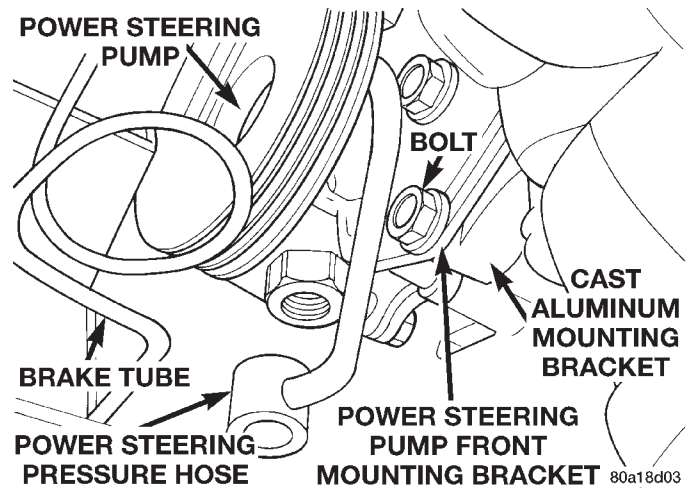

Fig. 27 Power Steering Pump Front Bracket Attachment
(8) Remove bolt at adjustment slot, (Fig. 27) attaching front power steering pump mounting bracket to cast aluminum accessory drive bracket on engine.
(1) Install power steering pump and mounting bracket as an assembly back in vehicle, using reverse order of removal.
(2) Install power steering pump and front bracket on the cast aluminum accessory drive engine bracket (Fig. 27). Then loosely install the bolt at adjusting slot (Fig. 27) mounting pump bracket to accessory drive bracket.